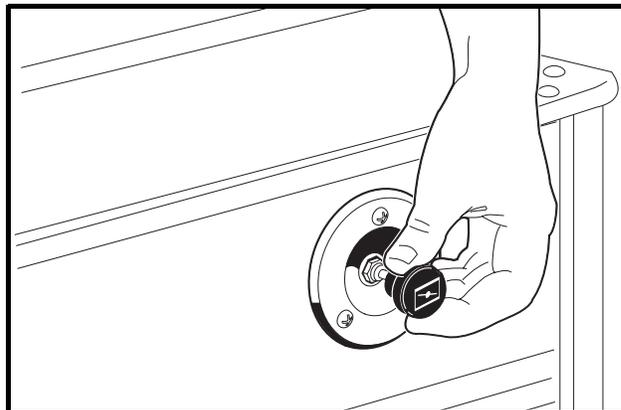

Figure 15 Cable Choke
- **Turf 2, Turf 6, Carryall 2, Carryall 2 Plus, and Carryall 6:** Pull out the choke cable. Hold choke cable out during start-up and release it after the engine starts and runs smoothly (**Figure 15**).